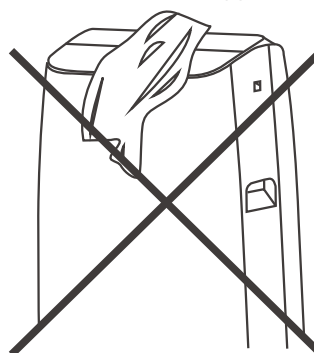

Fig.15
- Do not block the air inlet or outlet of the appliance. Reduced air flow will result in poor performance and could damage the unit (fig.15).